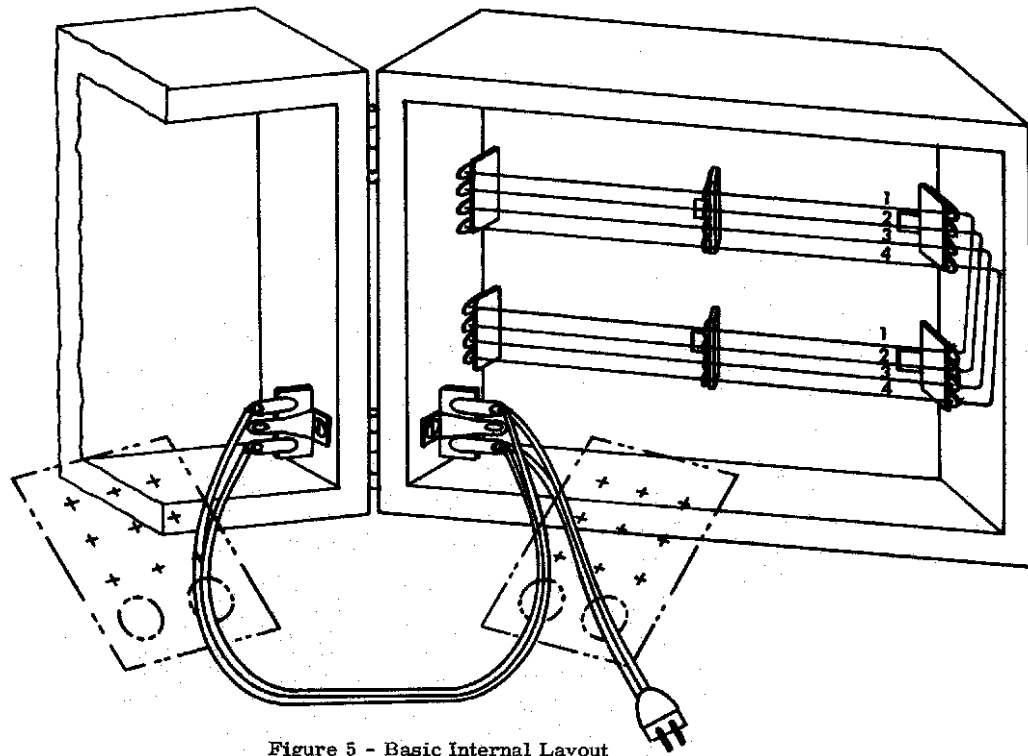

Figure 5 - Basic Internal Layout
During the following steps, refer to figure 5 for internal layout and wiring.
- () Cut a 5" length of the insulated wire provided and prepare it by stripping 1/4" of insulation from each end. Connect one end of this wire to Lug #1 of the upper buss rod assembly at one end. (See figure 5.) Connect the remaining end of the wire to Lug #1 of the lower buss rod assembly. Solder both connections.
The dual section road style case uses two of the basic arrangements to form a unit which will fold in half and latch to itself to provide a portable, protective enclosure for the modules. In this configuration, the 4761 front panel in each module case needs to be mounted in the lower corners nearest to each other when the case is open. (See figure 5.) This will allow the easiest means of jumping power from case to case. Extra hardware will also need to be mounted if the case is to be closed, latched and carried.
- () After determining the corner location of the 4761 front panel, mount the three-lug terminal strip on the case side nearest the panel location. (See figure 5.) Mount the terminal strip about half way between the front and rear of the module space, using a #4 X 3/8" screw.
- () Arrange the two cabinets so they are facing each other with the case bottoms (the rubber feet are mounted on the bottom) facing the same direction. Locate the hinges on the case sides directly between the 4761 front panels when the case is opened. Mount the hinges about 1-1/2 inches in from the top and bottom of the cabinet using four #4 X 3/8" screws for each hinge. (See figure 5.)